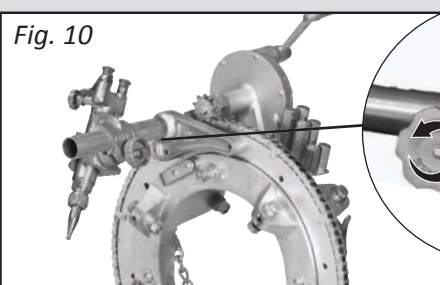

Fig. 10
3. Install torch inside torch holder. (Fig. 10)
B. Install torch inside torch holder. (Fig. 10)